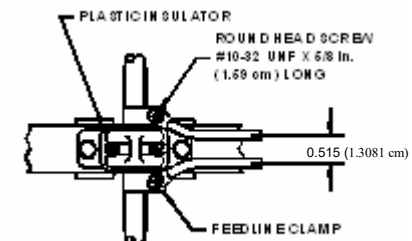

FIGURE 2
2. The feedlines connecting the dipoles "C" and "D" are attached as shown in Figure 2 using the four feedline clamps and the #10-32 x 5/8" long round head screws. The feedlines must have a center to center spacing of 1 inch as shown in Figure 2. Attach the feedlines to the top of the feedline clamps. There must be bare metal to metal contact between the feedlines and the dipoles.